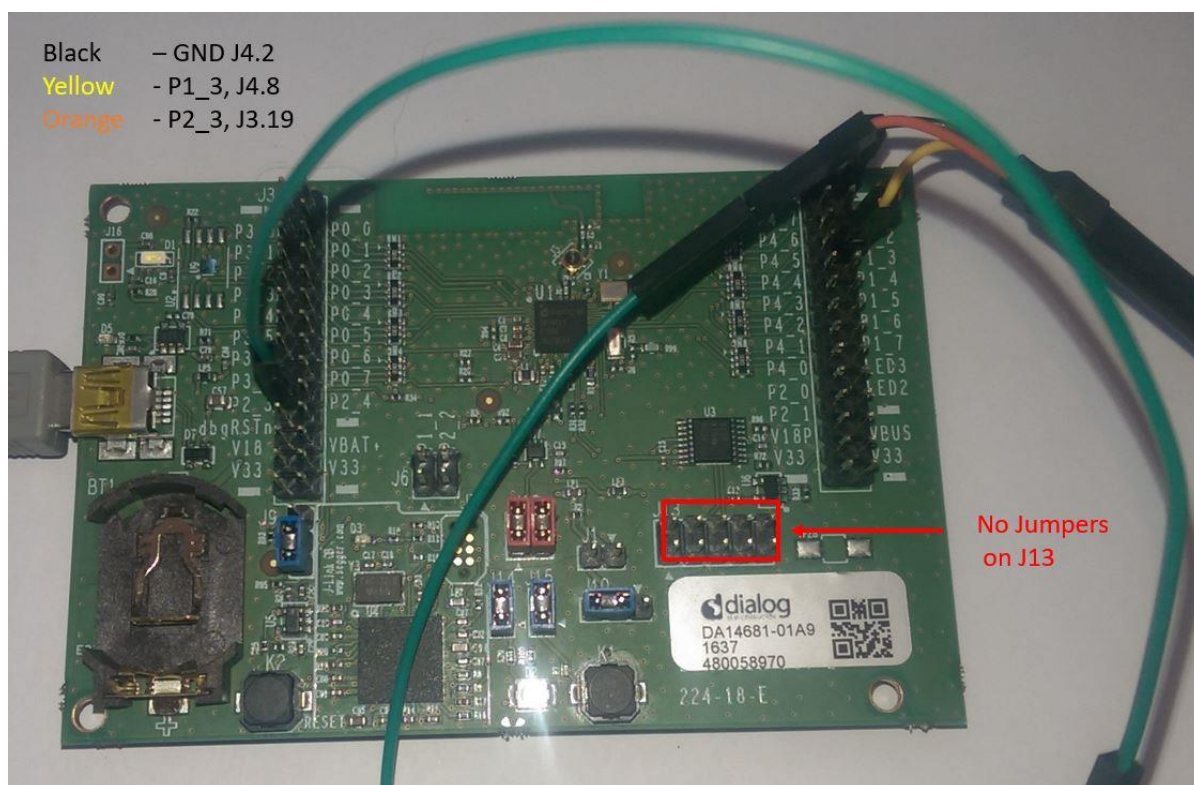

Figure 15: FTDI cable connected to UART on Basic DK with no flow control
- The application is controlled using text-based menu via UART1 which is accessed through the virtual COM port over USB on Pro DK (ensure jumpers are fitted on J15.1-2 and 3-4). **On the Basic DK it must be accessed via an RS232-TTL level converter cable such as an FTDI TTL-232R-RPi. This demo does not use flow control and so the FTDI cable must be connected as follows. The orange wire is connected to P1_3 (Rx), the yellow wire is connected to P2_3 (Tx) and the black wire is connected to GND (J4.2). There must also be no jumpers on J13. This is shown in Figure 15.**